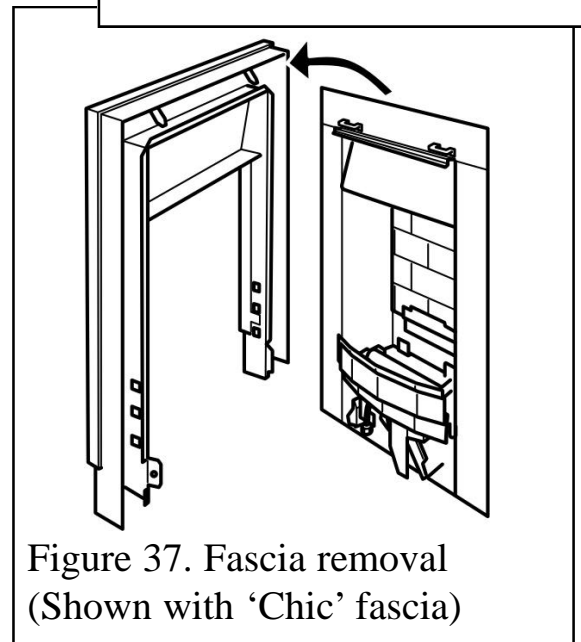

Figure 37. Fascia removal (Shown with 'Chic' fascia)
4. Make sure that the control linking bar has been detached (See point 2). Carefully lift the fascia unit upward to clear the upper retaining brackets on the hotbox (See figure 37). Pull the fascia clear and place carefully aside.